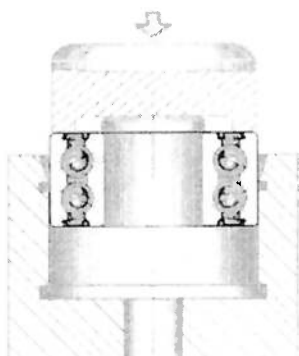

Fig. 2 - Fitting the bearing rings
- fitting sleeves should also be used which cover the whole circumference of the bearing ring end faces (see Figure 2).